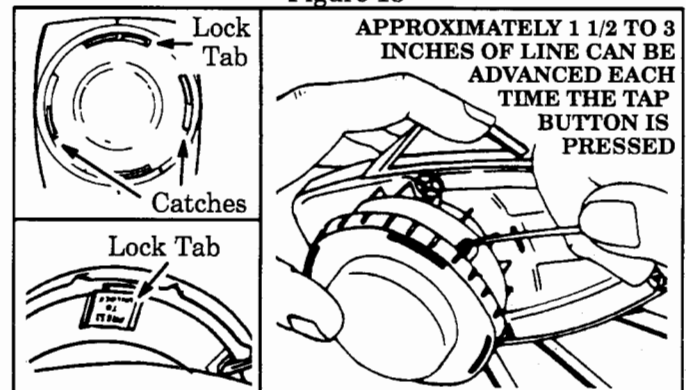

Figure 19
- Reinstall the tap button and lock ring. Turn the lock ring clockwise and fasten the lock tabs in all four catches on the hub. Figure 19.
- Properly reinstall if the lock ring comes off or if the lock tab or catches do not look like those shown in Figure 19.
- Pull line to change the spool from the locked position to the operating position. Figure 19.
NOTE: Approximately 1-1/2 to 3 inches of line can be advanced each time the tap button is pressed. Figure 19.